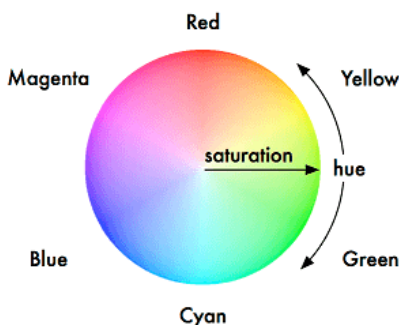

Figure 6.11. The Colour Wheel
- **Hue:** the colour's position in the possible range of colours, from red, going through yellow, green, cyan, blue and magenta, and finally returning to red. As the range 'wraps around', you can visualise it as a circle with the colours positioned around the edge, with red at the top, green at the lower right, blue at the lower left, and the intermediate colours in between. The angle between 0 and 360 degrees specifies the hue of the colour: red has a hue of 0 degrees, yellow has a hue of 60 degrees, and cyan has a hue of 180 degrees. See Figure 6.11, "The Colour Wheel".